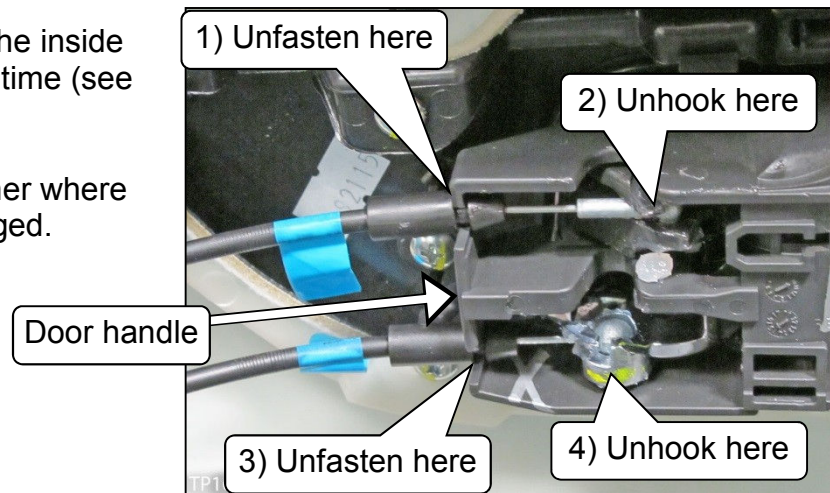

Figure 7
- b. Unfasten both cables from the inside door handle, one cable at a time (see Figure 7).